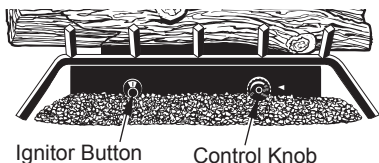

Figure 20 - Control Knob and Ignitor Button Location
4. Wait five (5) minutes to clear out any gas. Then smell for gas, including near floor. If you smell gas, STOP! Follow "B" in safety information, page 16. If you don't smell gas, go to next step.
5. Turn control knob counterclockwise  to PILOT position. Press in control knob for five (5) seconds (see Figure 20).